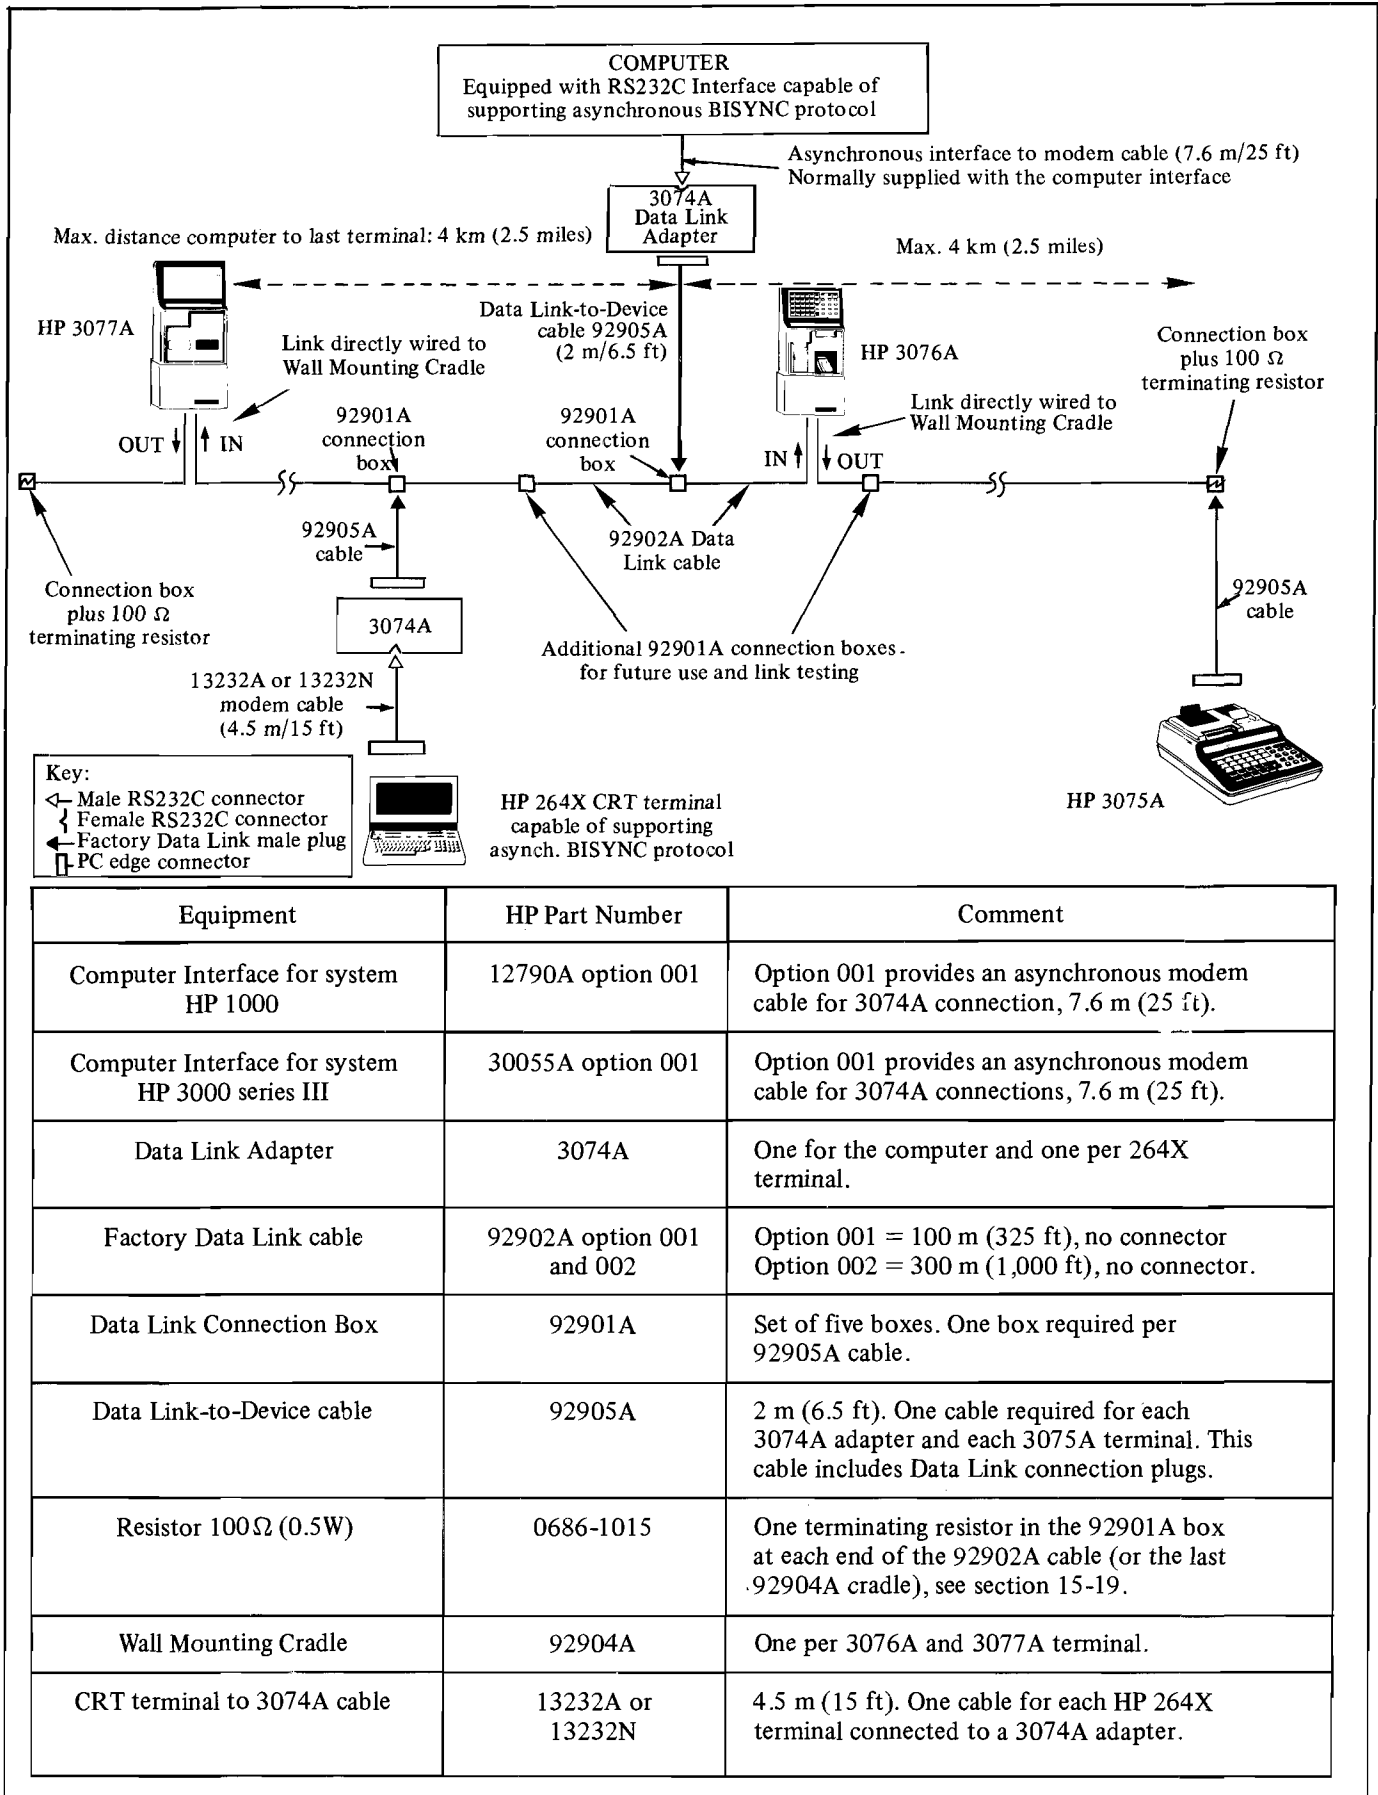

Figure 15-7 Factory Data Link Components
Figure 15-7 depicts and lists the components that are required for a Factory Data Link installation.
- 5) The 3074A Data Link Adapters must be positioned between the link and the computer and between the link and any HP 264X terminals that are used. Since the 3074A acts as a modem it must be hardwired to the computer/264X terminal using an asynchronous modem cable, see figure 15-7.